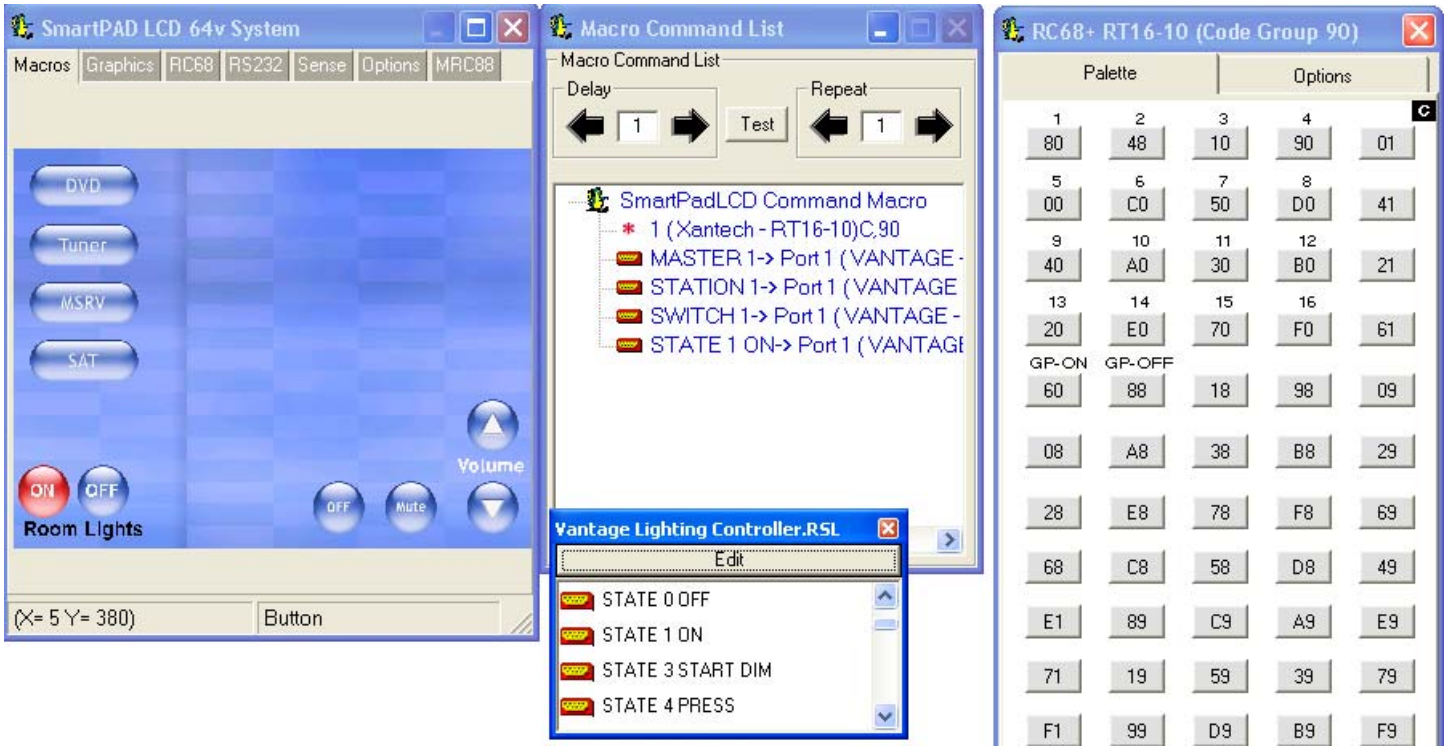

Fig. 10: SmartPad™ LCD Dragon Programming for Example #2
4. Open the RS232 Palette for Vantage and place the proper Macro commands under the IR Routing command in step 8-f. See **Figure 10**.